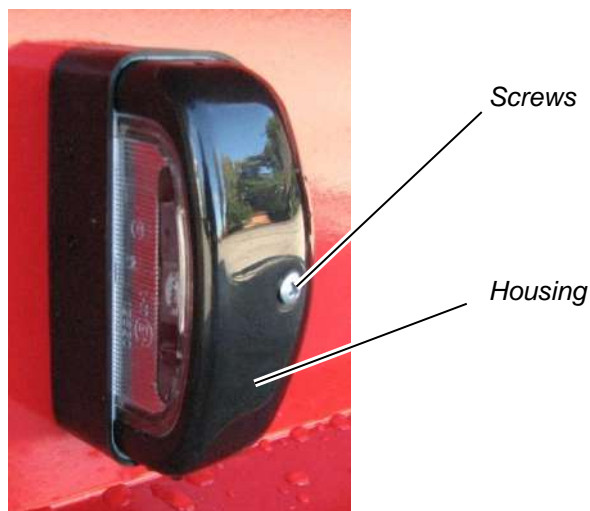

Figure 55: Registration plate light
- ⇒ Unscrew the screws from the registration plate light (see Figure 55).
- ⇒ Remove the housing (see Figure 55).